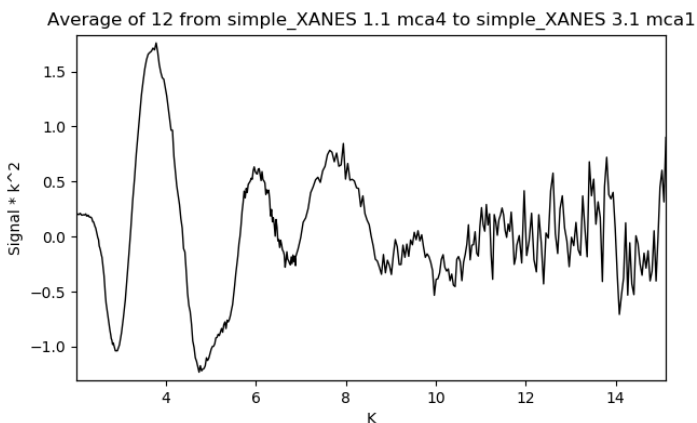

Figure 2-2: The k^2 -weighted EXAFS are plotted here.
- 2) When processing and analyzing EXAFS data for publications, you'll want to use a dedicated program such as Athena / Artemis, but for quick data assessment at the beamline PyMCA works very well and so that's how we'll proceed. As we discussed during the lectures, there are several different ways to plot EXAFS data, including various k -weightings (e.g. k^2 , k^3) and Fourier transforming the data, all of which are available in PyMCA. We'll start by plotting the k^2 -weighted EXAFS to enhance the EXAFS signal at high k (remember that the signal drops off as energy increases); click the "1D Plugins" icon in panel D and then navigate to 1D Plugins > XAS > EXAFS * k^2 . Doing so should result in the plot shown in Figure 2-2.